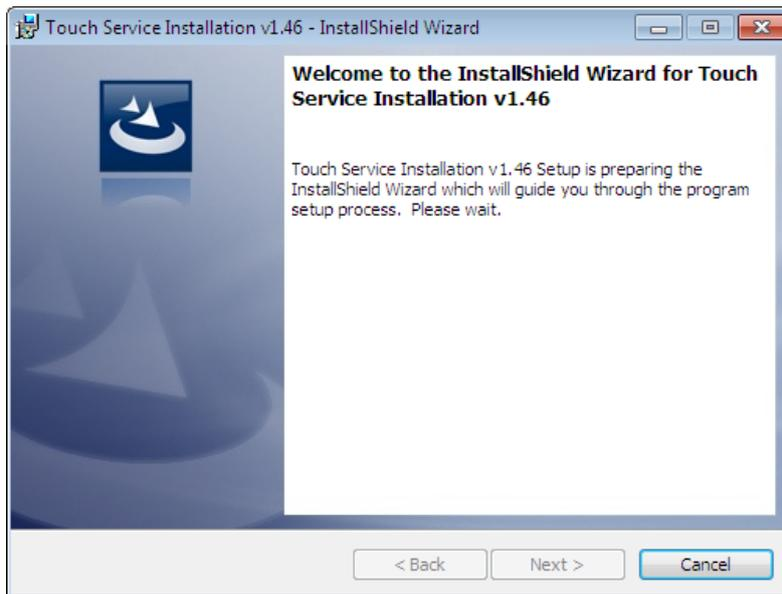

Figure 3-7
- a) Double-click: "Setup" and go to "Preparing to install" interface shown as "Figure 3-7".